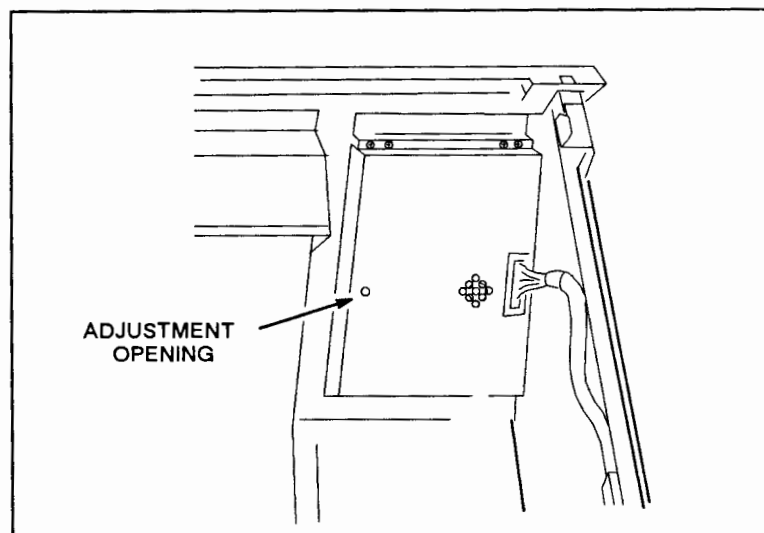

Figure 6-12. LCD Contrast Adjustment
- b. Locate the adjustment opening in the front panel assembly cover. See Figure 6-12.